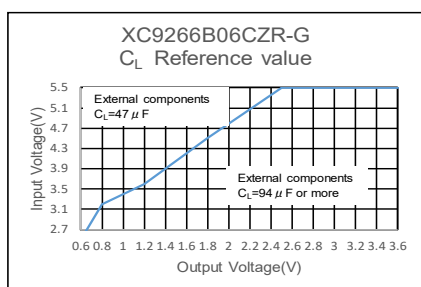
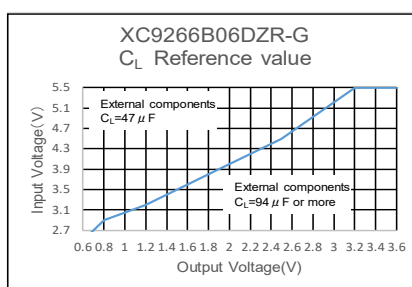

Fig.1:XC9266B06CZR-Gの $C_L$ 値
Fig.2:XC9266B06DZR-Gの $C_L$ 値
(2) Regarding the value of  $C_L$ , please refer to Fig.1, Fig.2